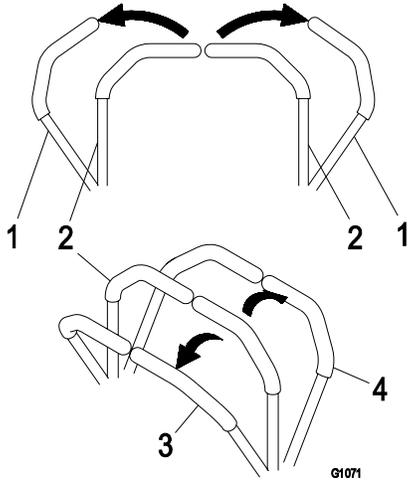

Figure 13
2. To go forward, slowly push the motion control levers forward (Figure 13).
To go straight, apply equal pressure to both motion control levers (Figure 13).
To turn, pull back on the motion control lever toward the direction you want to turn (Figure 13).
2. To go backward, slowly pull the motion control levers rearward (Figure 13).
To turn, release the pressure on the motion control lever toward the direction you want to turn (Figure 13).